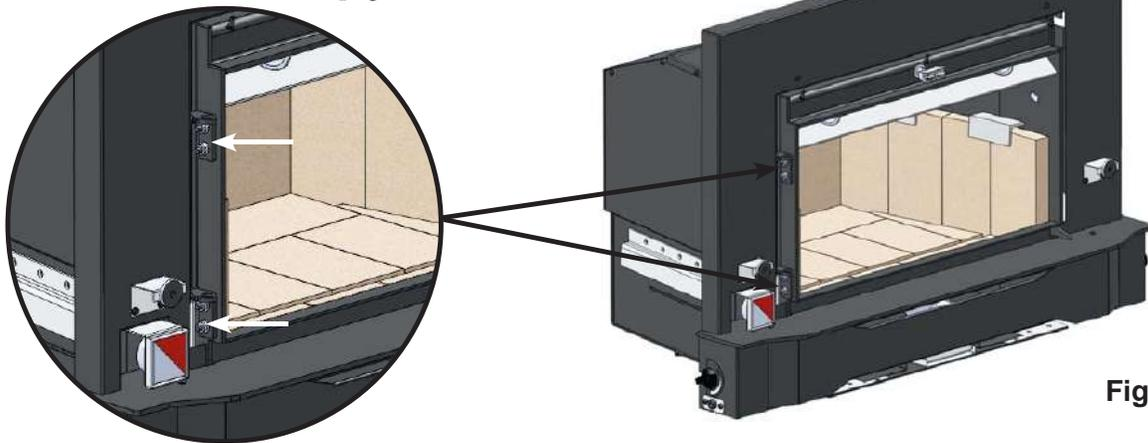

Fig. 19
4. Loosen the four door hinge nuts using a  $7/16$ " wrench. Slide door hinges in to tighten door seal and out to loosen door seal. **(Fig. 19)**